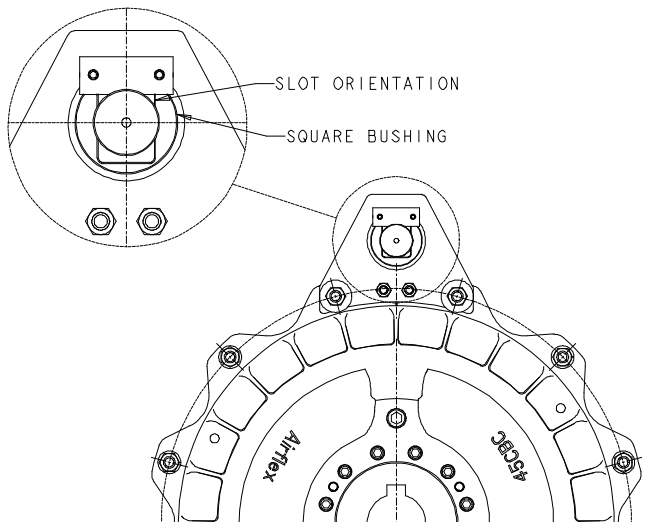

Figure 10
2.4.1.3 Noting the orientation of the slot in the side of the pin, insert the pin into the fitted hole. The slot on the side of the pin should be positioned 180 degrees from the centerline of the machine shaft, with the pin installed to the proper depth, allowing for assembly of the retaining plate. See Figure 10.
- 2.4.2.7 Insert the rectangular bushing (38 or 52) into the remaining arm, noting the orientation of the rectangular slot. Proper orientation of the bushing allows for radial thermal expansion of the friction disc during operation. See Figure 10. Secure the bushing with the retaining ring (48 or 57).